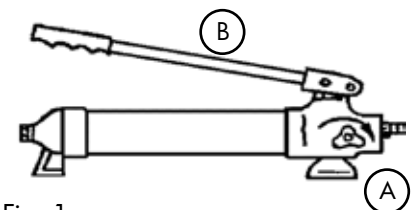

Fig. 1
2. Firmly close the release valve A by turning it in a clockwise direction. Fig. 1.
3. Apply pressure to the pump B by pumping the handle up and down. Fig. 1.